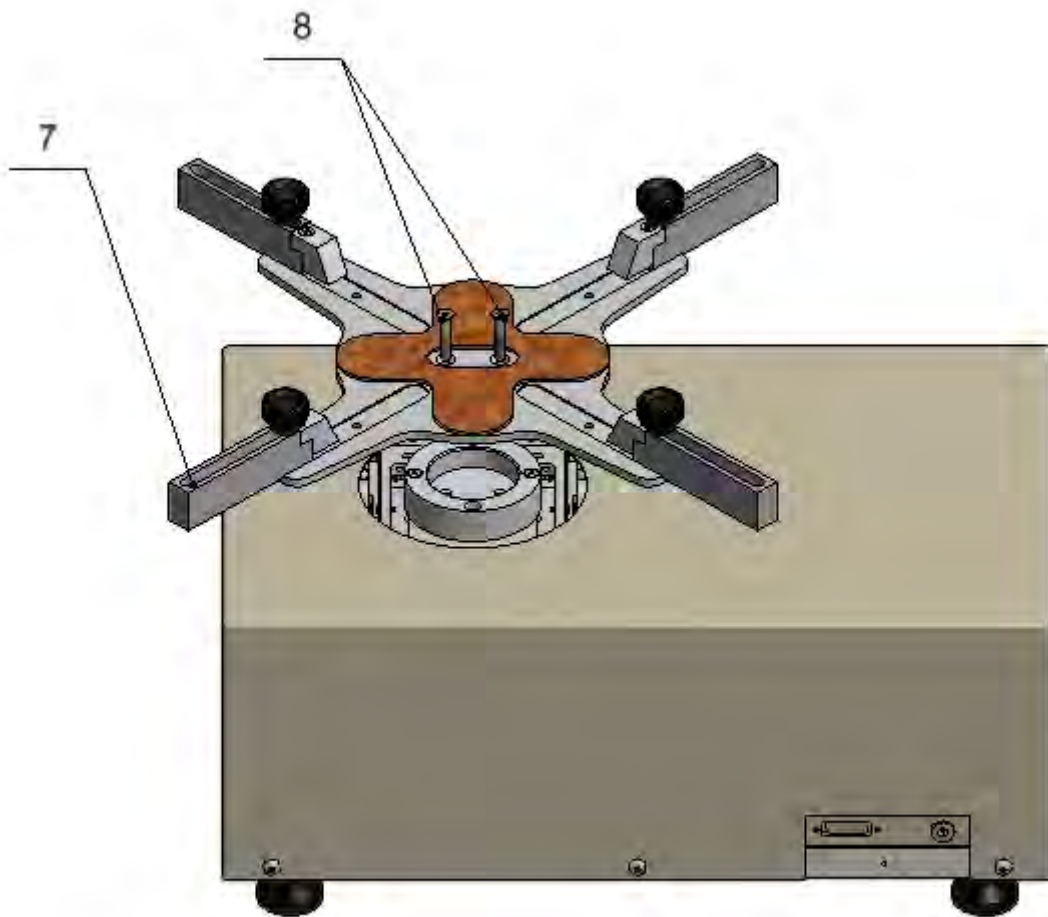

Fig.4
- Use two M5 screws (8) to fix centring pan assembly (7). (Fig.4)